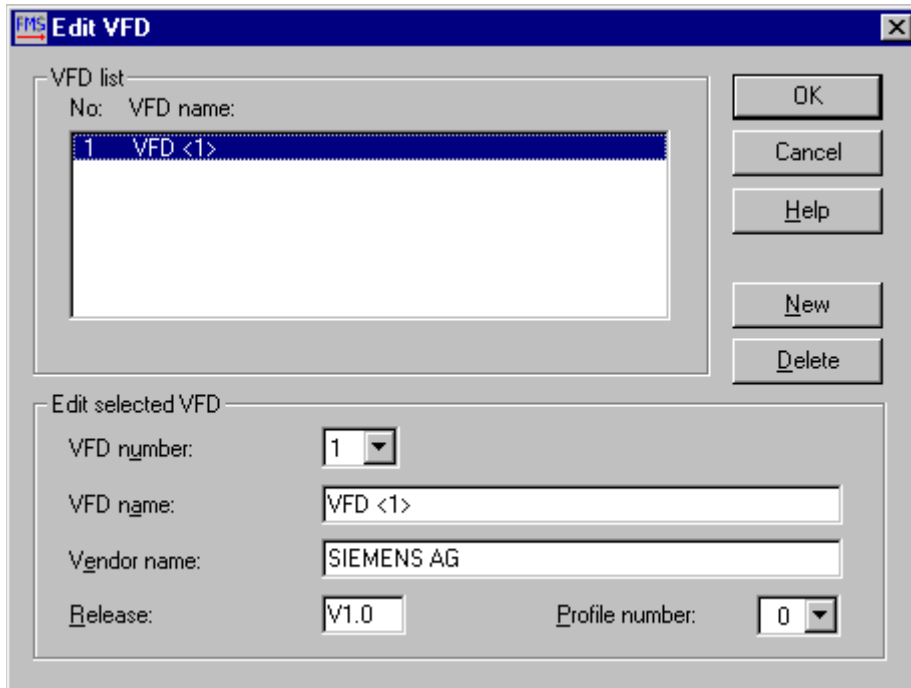

Figure 5-5 The "Edit VFD" dialog box
- VFD number: The FMS connection is assigned to a configured VFD here. In our example there is only one VFD with the number "1" (see Figure 5-5).